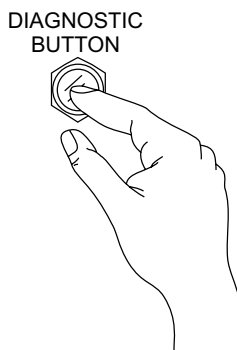

Figure 53. Diagnostic Button
5. Push and hold the diagnostic button (Figure 53) to identify the fault